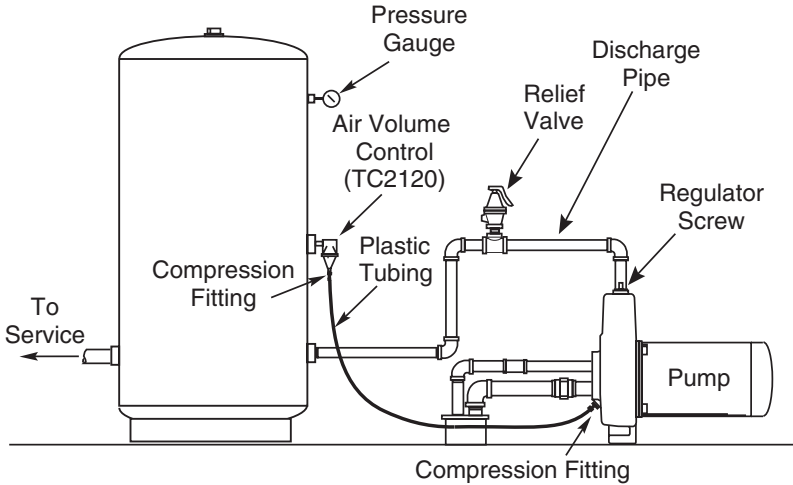

Figure 1: Typical Jet Pump Installation
2. Connect inlet and outlet pipes as shown in Figures 1 and 2.